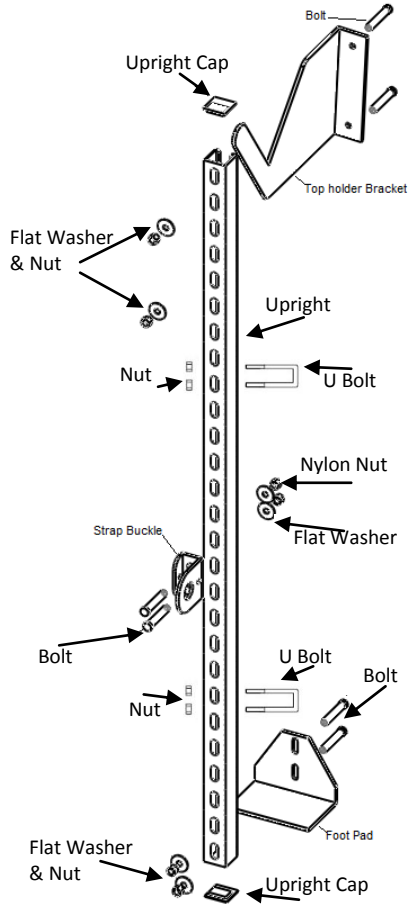

Figure 1.1: Rio Bar & Tube Handler Attachment assembly
1. Assemble each attachment as per figure 1.1.